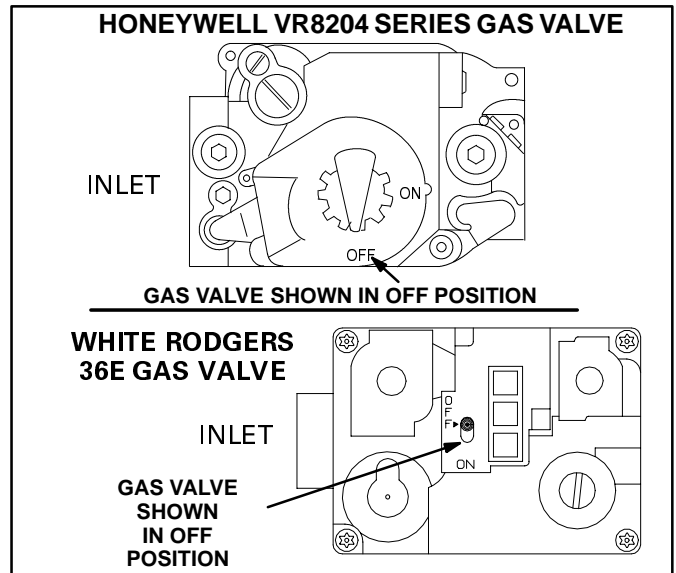

FIGURE 23
The G23(X) uses a gas valve manufactured by Honeywell or White Rodgers. See figure 23. The valve is internally redundant to assure safety shut-off. If the gas valve must be replaced, the same type valve must be used.